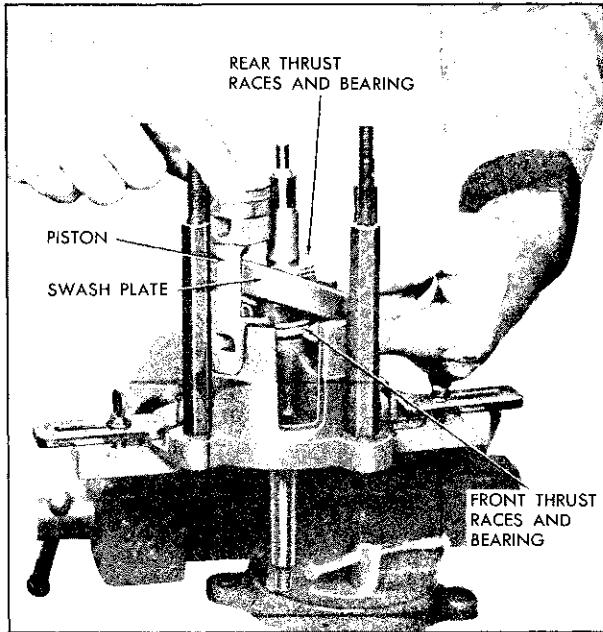

Fig. 1A-30 Installing Piston with Balls
13. Place cylinder assembly in J 9397 compressing fixture with front of compressor shaft pointing down, positioning discharge tube opening between fixture bolts. This will permit access for the feeler gauge. Assemble fixture head ring and nut to the cage, tighten nuts evenly to 25 lb. ft. torque (Fig. 1A-32).